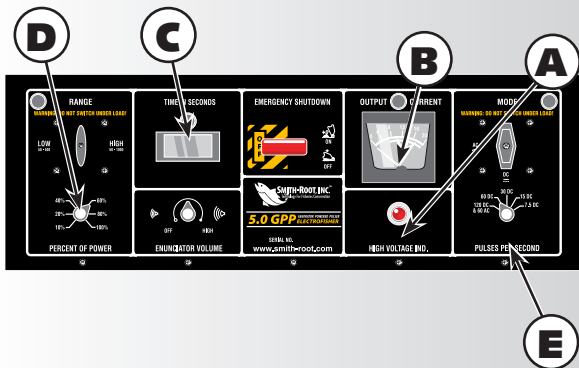

Fig. 7.1
- When the Red Light (See Fig. 7.1, A) is illuminated, the “Current Meter” (See Fig. 7.1, B) should show amperage and the “Seconds Counter” (See Fig. 7.1, C) should be counting.
- Adjusting the “Percent of Range” (See Fig. 7.1, D) up to 100% will increase the amperage shown on the Current Meter.
- Switch the “Mode” switch (See Fig. 7.1, E) from 120 PPS to 60 PPS. The amperage should drop by half.